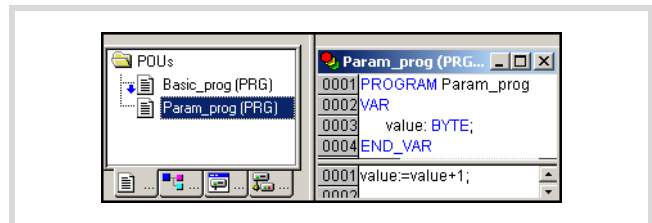

Figure 28: POU for event-triggered task
- You can enter a program. In the sample program Param_prog (Figure 28), the variable "value" will be increased by the value 1. The program Param_prog will be executed when variable a = TRUE.